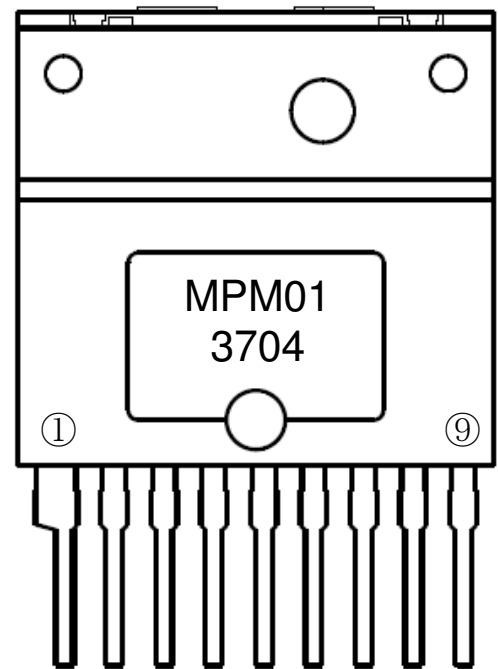

fig.8
①	GND	Ground terminal
②	VIN	Input power supply terminal
③	GND	Ground terminal
④	FB	Feedback terminal/resistor RFB connection terminal for output voltage setting
⑤⑥⑦	OUT	Output terminal
⑧⑨	SW	Oscillating frequency measurement terminal (15)
(15) The "SW" terminal is for the measurement (switching frequency) in the manufacture process. Connect nothing on the circuit board in case of use.
*Confirm a terminal number referring to the fig.8.